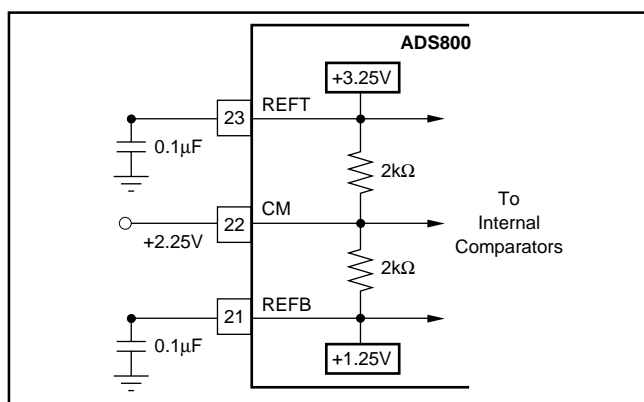

FIGURE 3. Internal Reference Structure.
The analog input of the ADS800 can be configured in various ways and driven with different circuits, depending on the nature of the signal and the level of performance desired. The ADS800 has an internal reference that sets the full-scale input range of the A/D converter. The differential input range has each input centered around the common-mode of +2.25V, with each of the two inputs having a full-scale range of +1.25V to +3.25V. Since each input is 2Vp-p and 180° out-of-phase with the other, a 4V differential input signal to the quantizer results. As shown in Figure 3, the positive full-scale reference (REFT) and the negative full-scale (REFB) are brought out for external bypassing. In addition, the common-mode voltage (CM) may be used as a reference to provide the appropriate offset for the driving circuitry. However, care must be taken not to appreciably load this reference node. For more information regarding external references, single-ended input, and ADS800 drive circuits, refer to the applications section.